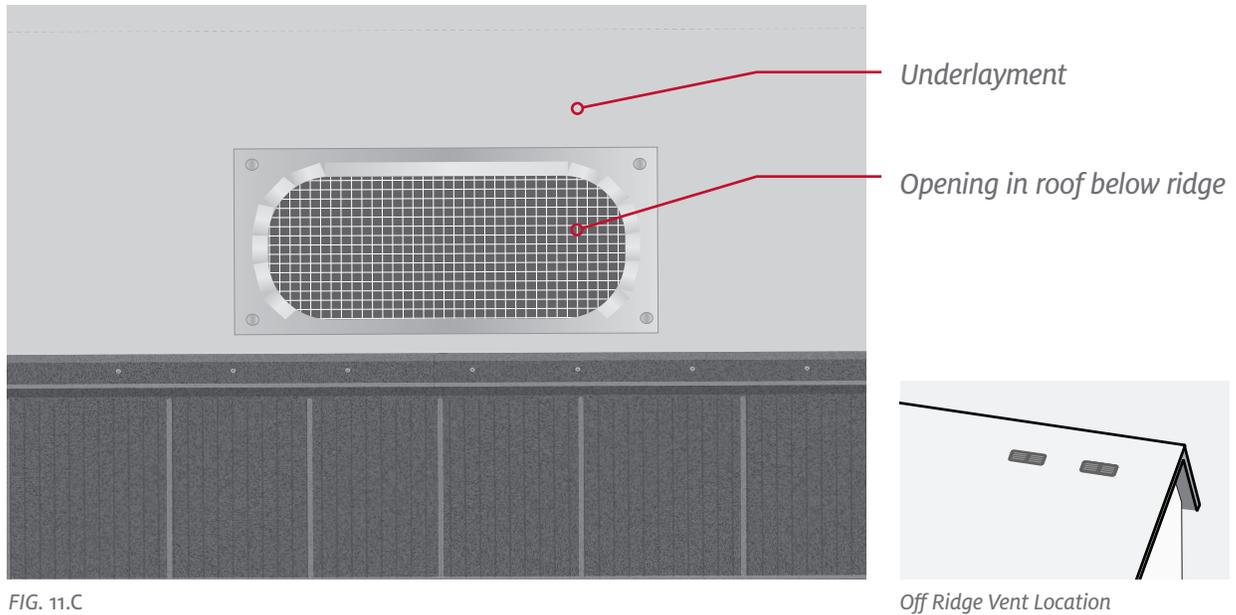

FIG. 11.C
2. Cut opening, install sub base. (Fig. 11.C)